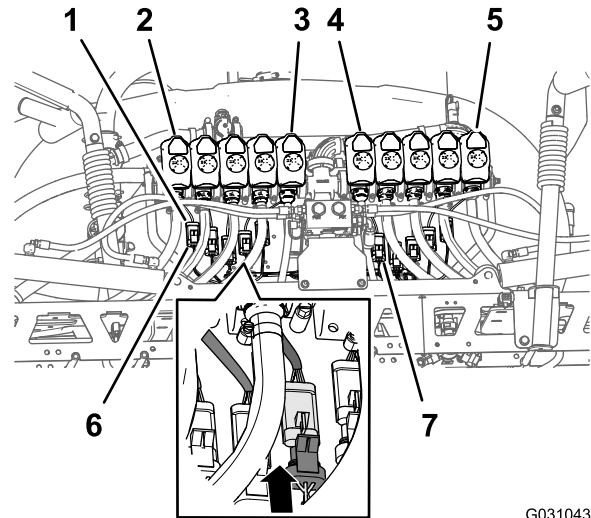

Figure 106
- Route the 3-socket connectors of the 203 cm (80 inch) wire-harness branch with labels **Nozzle Valve 1** through **Nozzle Valve 5** rearward of the 10-valve mount and below nozzle valves 1 through 5 (Figure 106).
- Route the 3-socket connectors of the 203 cm (80 inch) wire-harness branch with labels **Nozzle Valve 6** through **Nozzle Valve 10** rearward of the 10-valve mount and below nozzle-valves 6 through 10 (Figure 106).
- Connect the 3-pin socket connector of the rear wire harness labeled **Nozzle 1** to the 3-pin connector of the harness for nozzle-valve 1 (Figure 106).
- Repeat step 3 at the nozzle-valve positions 2 through 10 (Figure 106).